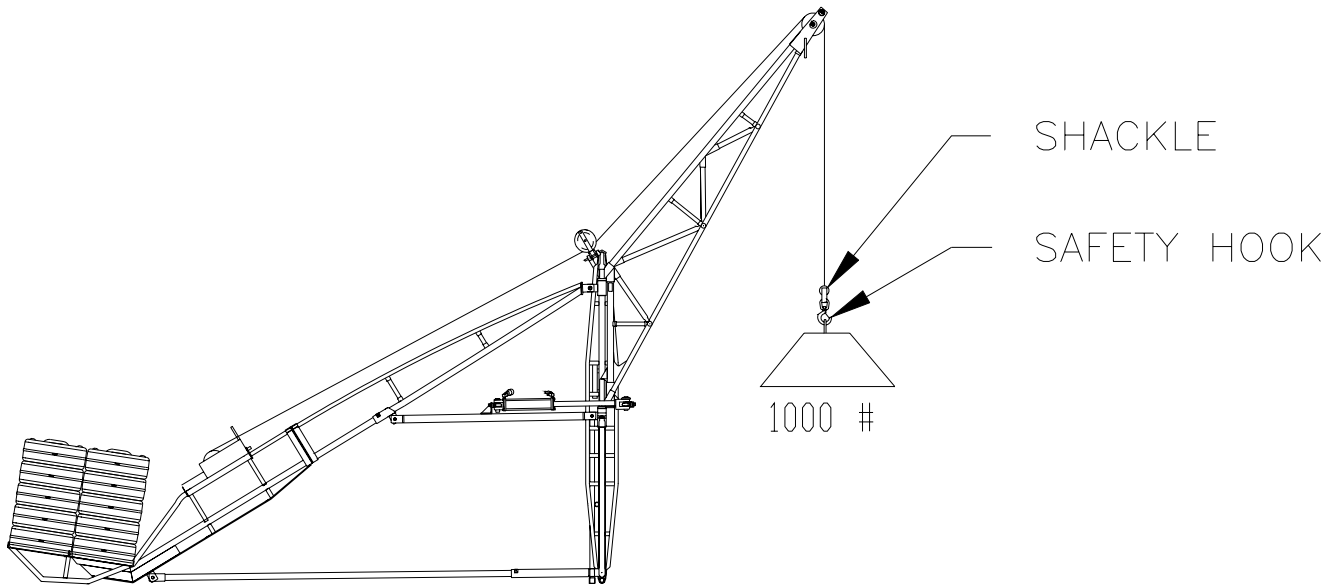
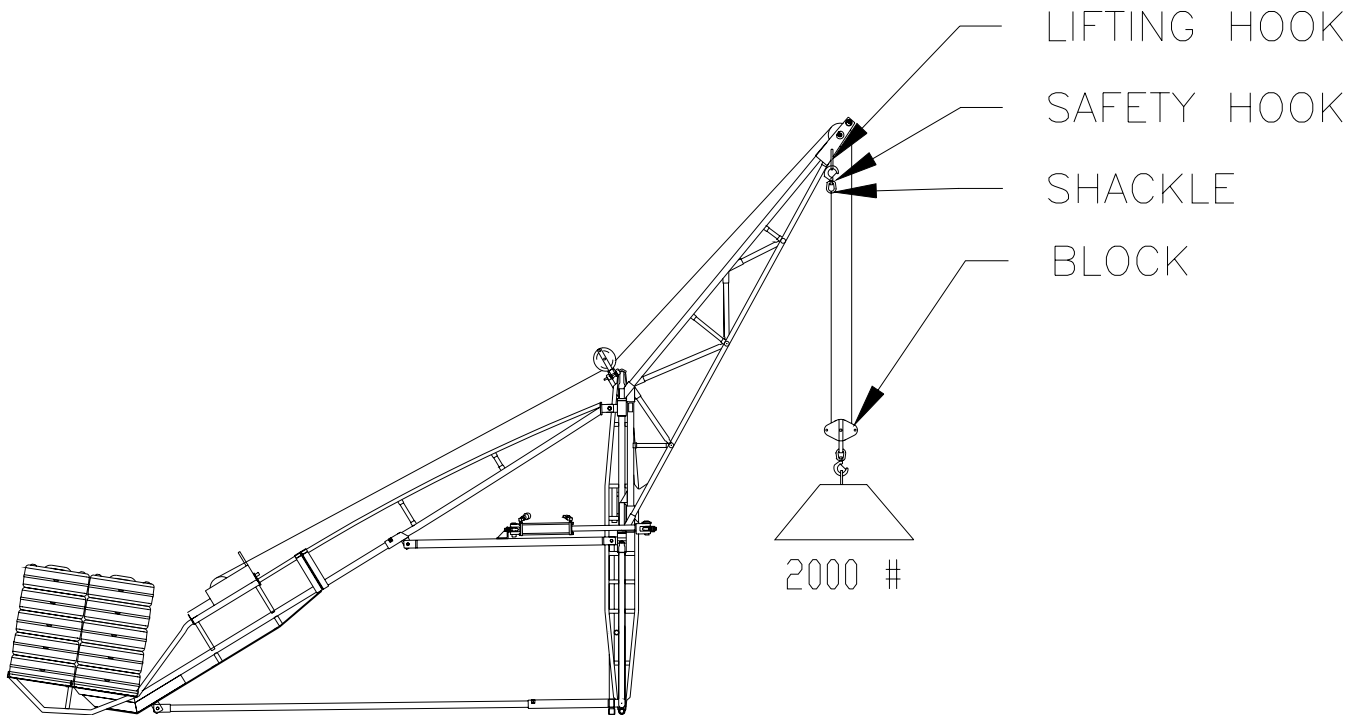

Figure 3-3.
Figure 3-4.
9. For single line lifting, attach shackle and safety hook as shown in Figure 3-3. For double line lifting, reeve wire rope through block and attach shackle and safety hook. Secure to lifting hook on boom as shown in Figure 3-4.